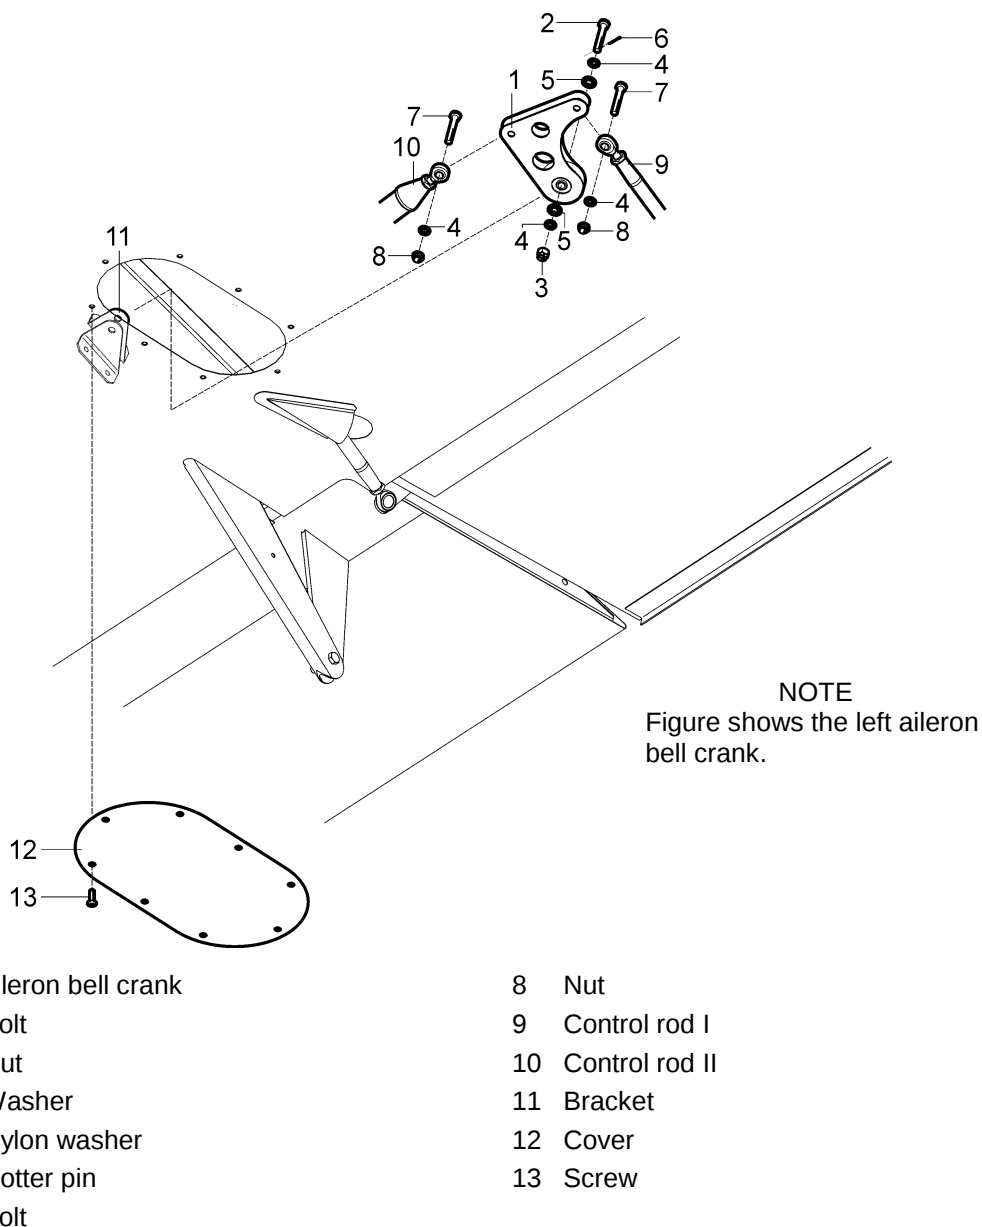

Fig. 6-11: Aileron bell crank removal / installation
- (a) Unscrew the screws (13, Fig. 6-11) and remove the cover (12).
- (b) Unscrew the nuts (8), remove the washers (4), bolts (7), and disconnect the rods (9; 10) from the bell crank (1).
- (c) Remove the cotter pin (6), unscrew the nut (3), remove the washers (4; 5), bolt (2), and the bell crank (1).
- (b) Fit the bell crank (1, Fig. 6-11) with the nylon washers (5) to the bracket (11), insert the bolt (8) with the first washer (4) to the hole, install the second washer (4), screw and slightly tighten the nut (3).
- (c) Secure the nut (3) with the new cotter pin (6).